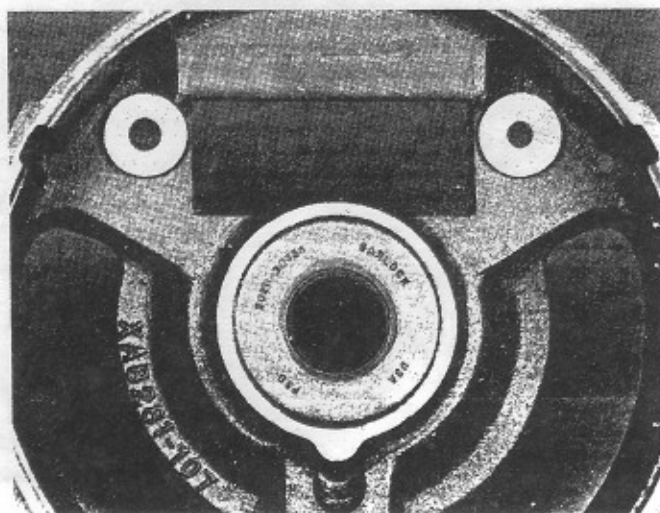

Figure 28
- 3.9 Insert ¼" ID and 5/16" ID insulation bushings in negative and positive output terminal holes so flat side of bushings face the inside of housing. Fig. 28.